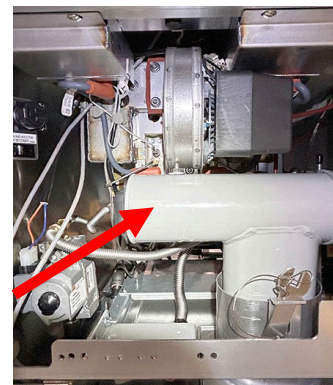

Figure 12
14. Open the doors of the fryer and locate the blower (see Figure 12).